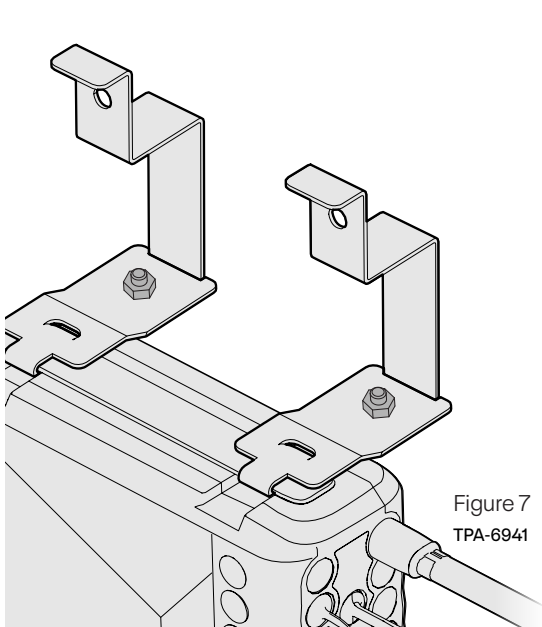

Figure 7
**Step 3:** Secure retaining clip to main bracket using the supplied bolt (Figure 7).